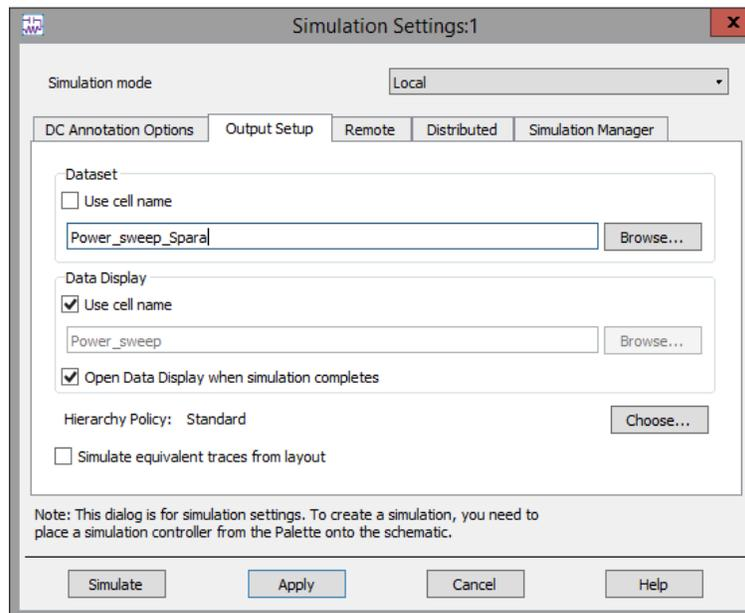

Figure 4: Simulation Settings
- Before Simulation, go to Simulate ⇒ Simulate Settings from top menu and change the Dataset name to Power_sweep_Spara as shown in Figure 4